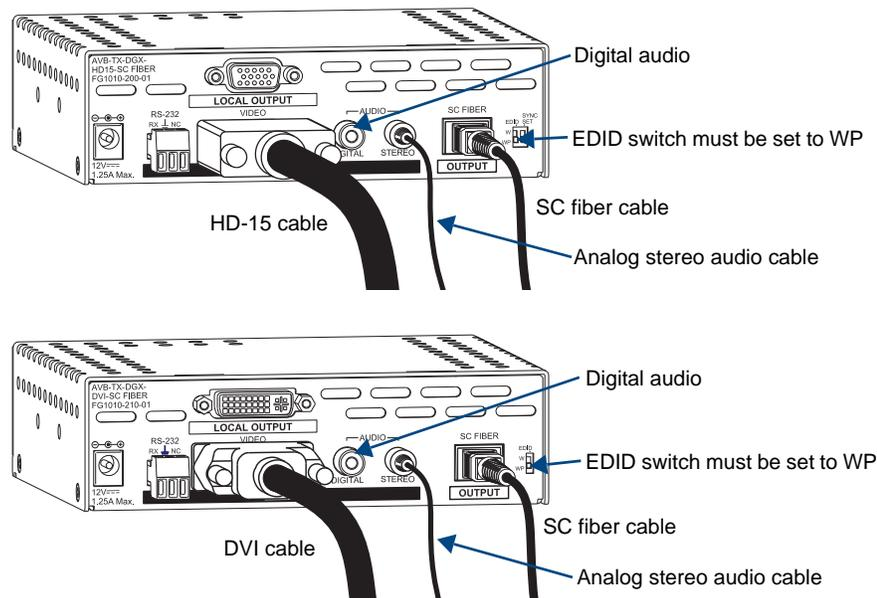

FIG. 20 Attach signal cables to DGX HD-15 TX (top) or DGX DVI TX (bottom)
2. DGX HD-15 TX – Attach the connector on the HD-15 cable from the source device to the Video Input receptacle (FIG. 20, top). HD-15 connectors on the module use the pinout information in FIG. 17.
DGX DVI TX – Attach the connector on the DVI cable from the source device to the Video Input receptacle (FIG. 20, bottom). DVI connectors on the module use the pinout information in FIG. 18.